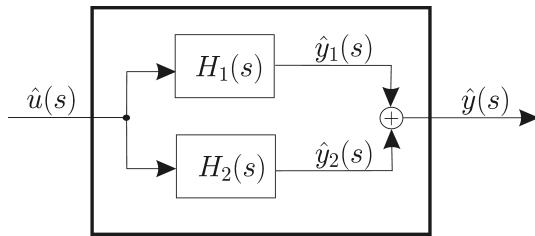

Figure 4.4: Two systems in parallel
- 2) Let us place the two systems of transfer functions $H_1(s)$ and $H_2(s)$ in parallel as shown on Figure 4.4.